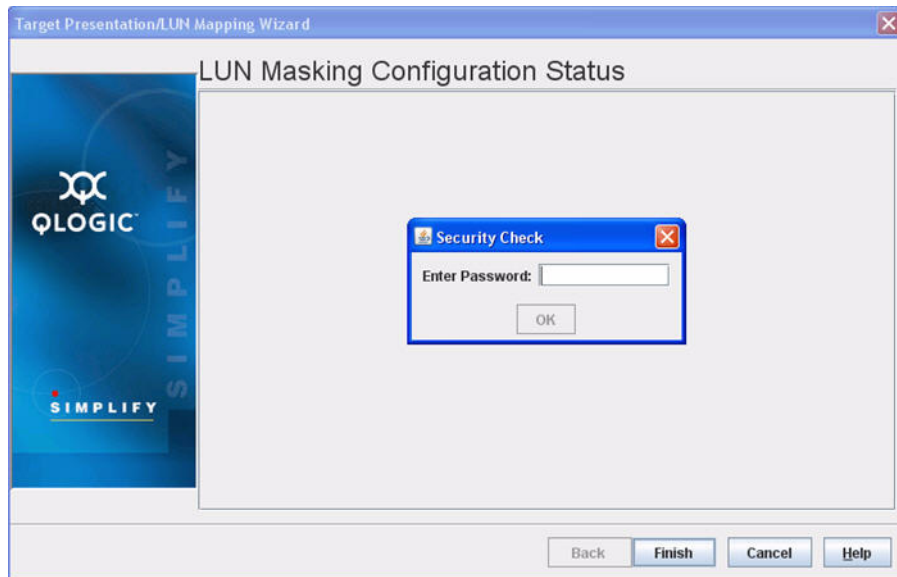

**Figure 4-18 Security Check Dialog Box**
- Review the configuration changes, then click **Next**. The LUN Masking Configuration Status dialog box appears, along with the Security Check dialog box, as shown in Figure 4-18.